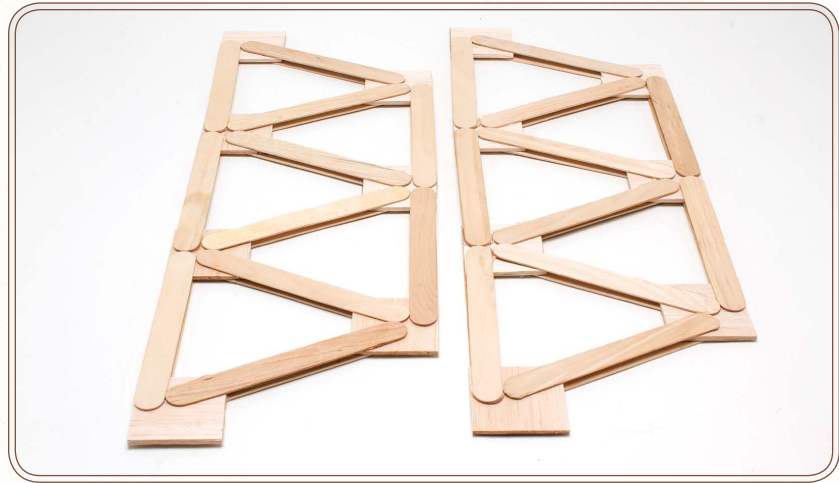

Figure 3.5: The completed pair of trusses
5. Do the same with the second truss (see Figure 3.5).